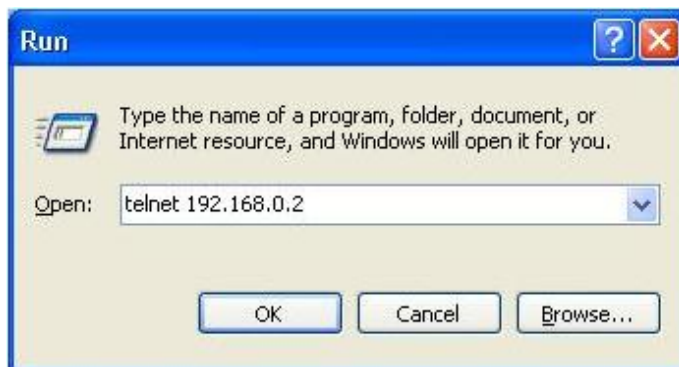

Figure 19 Access through Telnet
Step 2: Enter "telnet IP-address" in the Run dialog box, as shown in Figure 19. The default IP address of a Kyland switch is 192.168.0.2.